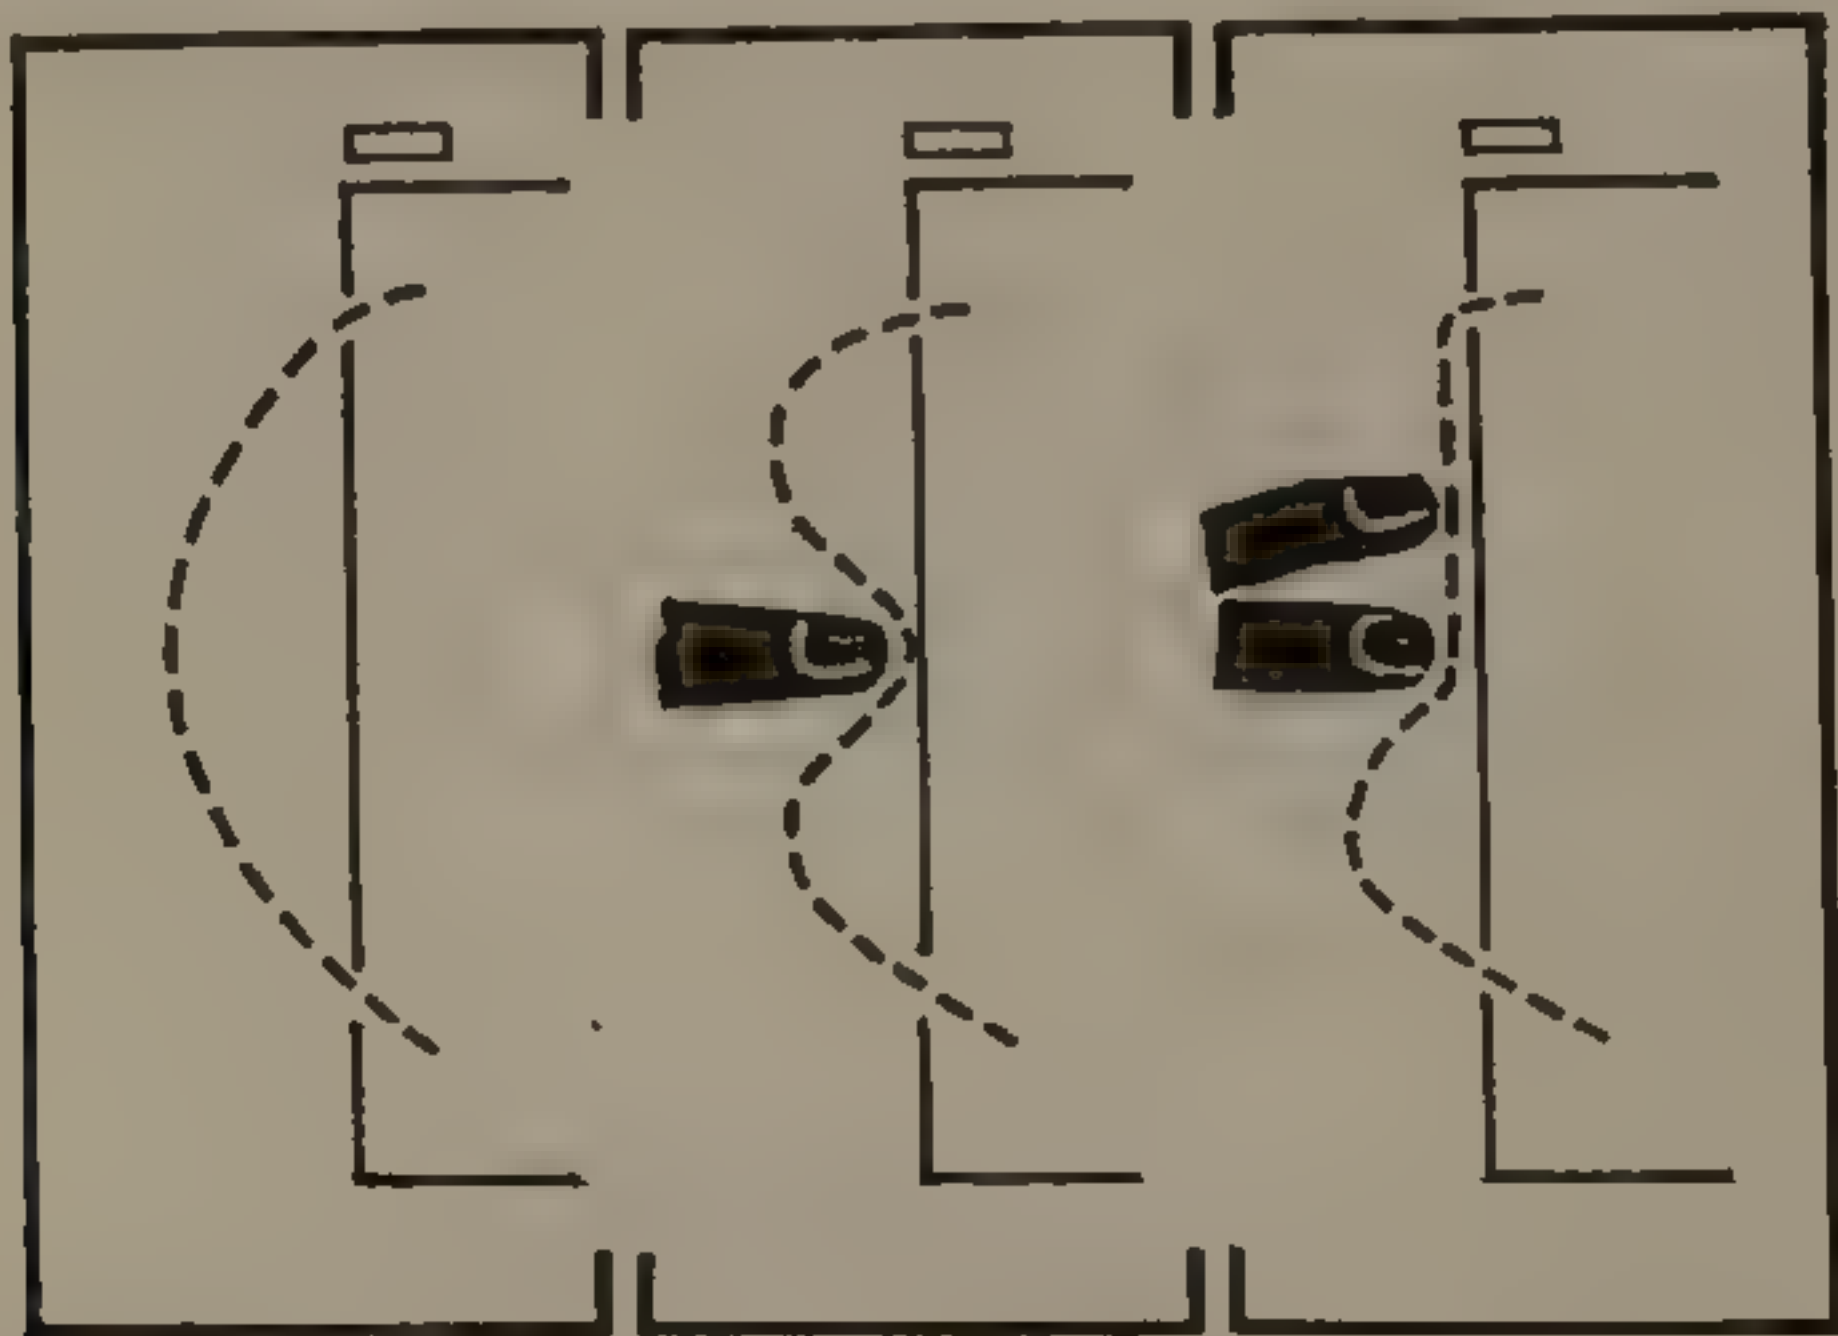

Fig. 11. Method of forming internal magazine film loops and flattening film against magazine plate.
- (vi) thread the film above the sprocket so that it goes under roller (A) and under the pressure rollers, then meshes with the sprocket teeth; next take it over the upper roller and close the pressure rollers;
- (vii) adjust the external film loop by inserting a finger into it (Fig. 11), and pressing down the film until it touches the magazine attachment knob;
- (xiv) the extended loop must now be pushed into the camera; this is done by pressing the rear of the loop with the finger, and flattening first one end and then the other with the other hand; when doing this, push the film through the light-trap slots so as to form two internal magazine loops (see Fig. 11); when the film is flat against the magazine base plate, the magazine is ready to attach to the camera.